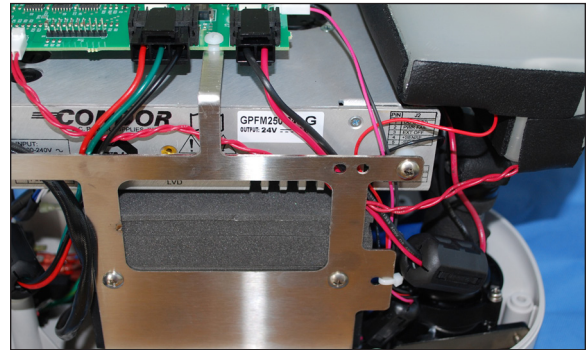

Figure 104 - Step 5 Route wire harness connector behind bracket
5. Route the new wire harness connector behind the thermoelectric subassembly bracket (Figure 104).